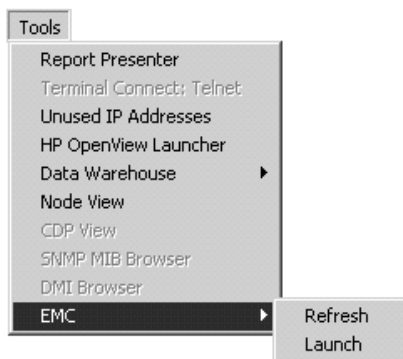

Figure 7-17 EMC Tools Menu
12. When the icon appears, click the icon, and then select **Tools, EMC, Refresh** (Figure 7-17).
2. Select **Launch** from the EMC Tools menu (Figure 7-17).
2. Select **Refresh** from the EMC Tools menu (Figure 7-17).